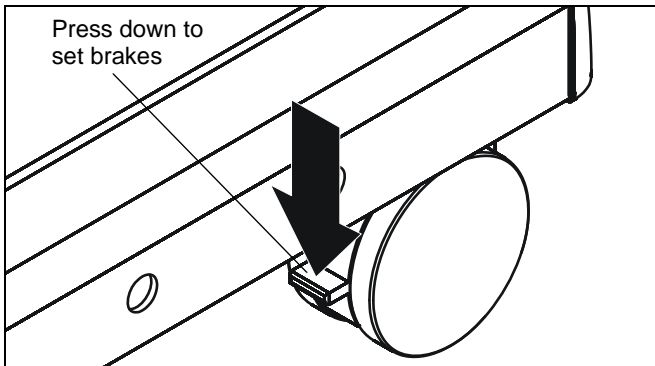

Figure 5
**⚠ WARNING:** Before attaching display to cart set the brakes on the back wheels by pressing down on the tab. (See Figure 5)